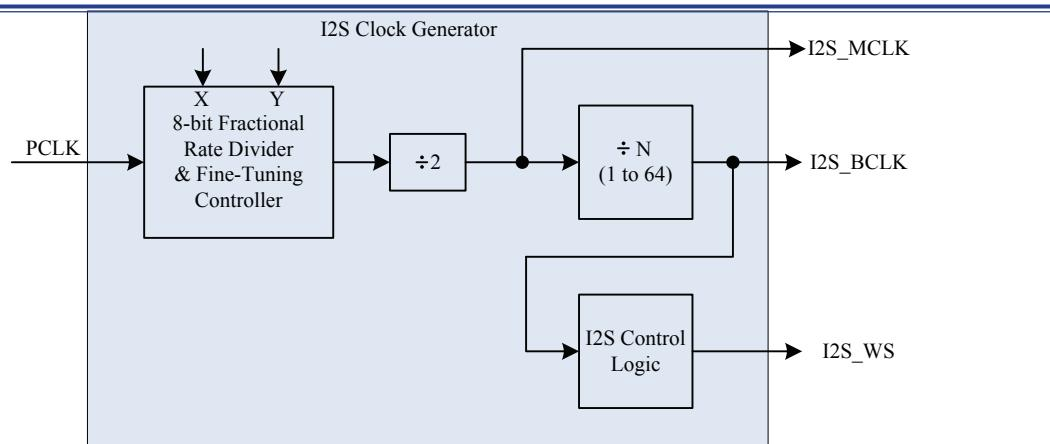

Figure 190. I²S clock generator diagram
The main (I²S_MCLK) and bit clock (I²S_BCLK) rates for the I²S are determined by the values in the I2SCDR register. The required I²S bit clock rate setting depends on the desired audio sample rate desired, the format (stereo/mono) used, and the data size. The main clock rate (I²S_MCLK) is generated using a fractional rate divider which is a divided down PCLK frequency of the I²S. Values of the numerator (X) and the denominator (Y) must be chosen to produce a frequency twice that of the main clock (I²S_MCLK). The output frequency of the divider is divided by 2 in order to get the duty cycle of the output clock more even. The I²S clock generator block diagram is shown in Figure 190. The equation for the fractional rate divider is: